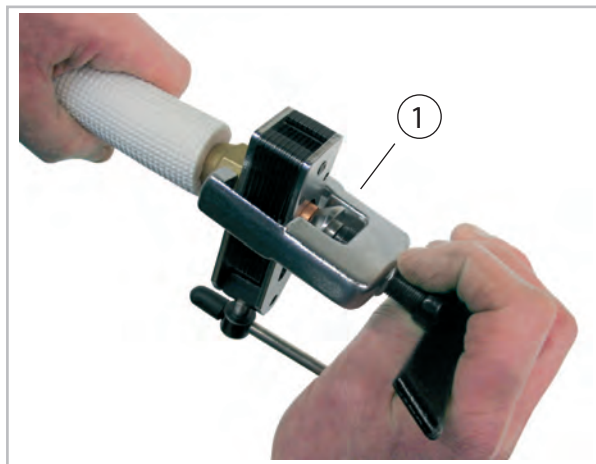
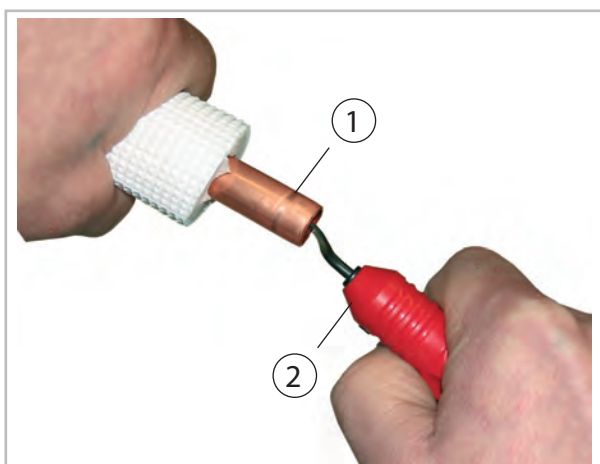

Fig. 12: Flanging the refrigerant piping
Fig. 11: Deburring the refrigerant piping
9. ➤ Prepare the laid refrigerant piping as shown below (Fig. 11 and Fig. 12).